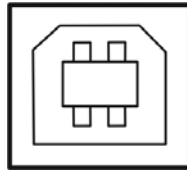

Figure D-4 USB-B type connector
1. The USB interface connector is a type of USB-B shown as figure D-4.